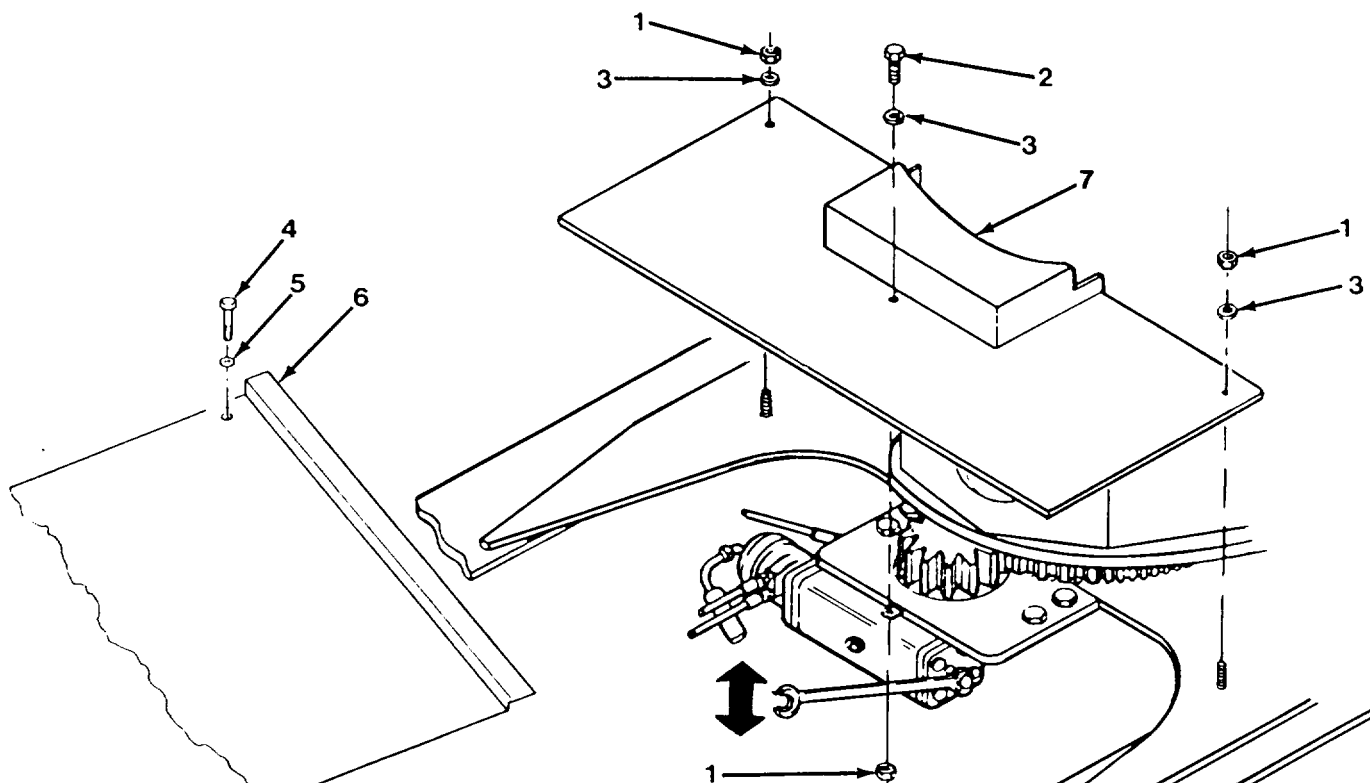

Figure 4-52. Swing Drive Box
12. Install pinion cover (7), deck plate (6), five washers (5), bolts (4), three washers (3), bolt (2), and three nuts (1, Figure 4-52).